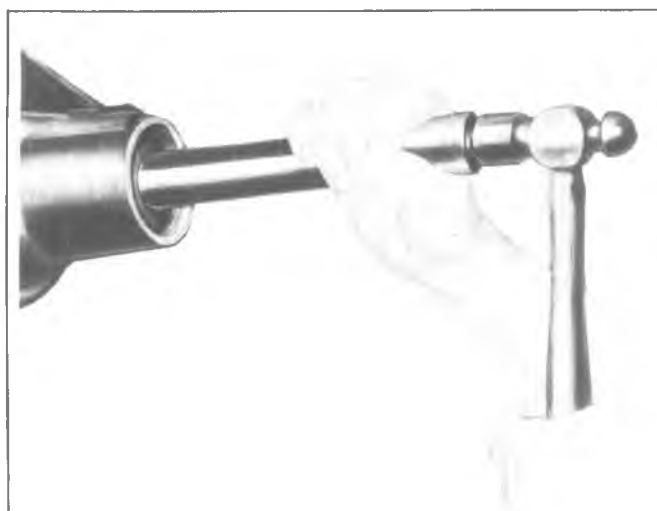

Fig. 17B--Installing Pinion Front Bearing Cup
7. Install the front cup, with the large end against the bore shoulder, using Installer J-7137 as shown in figure 17B.